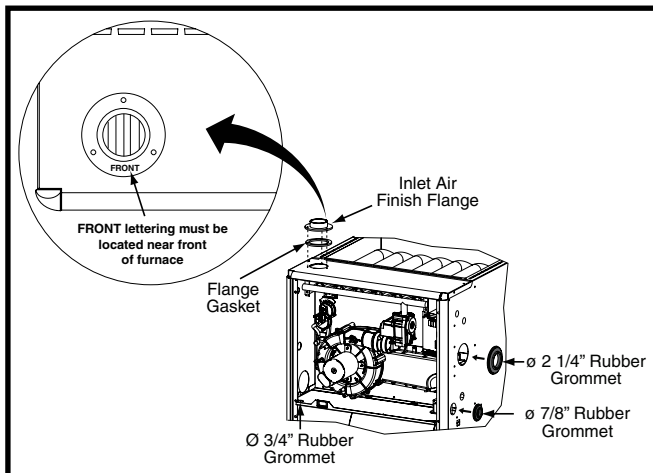
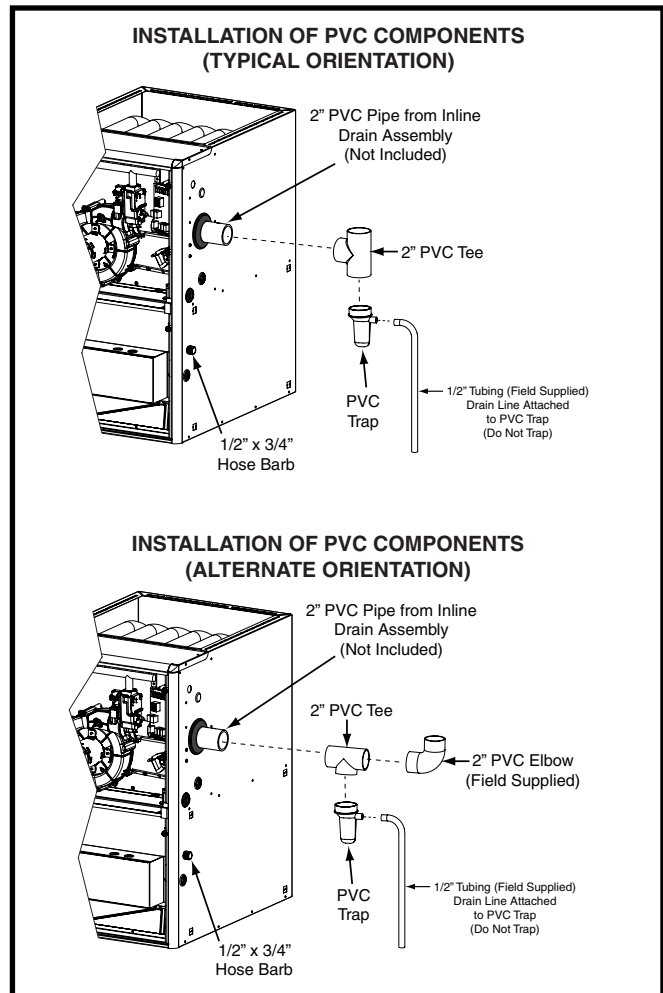

Figure 14. Finish Flange & Rubber Grommets
Figure 15. PVC Components
The components in Figure 14 & Figure 15 are included in the extra parts bag supplied with the purchase of *TC furnaces. Depending on your particular installation, some of these components are optional and may not be used. Please refer to the descriptions and accompanying figures when installing these items.
NOTE: Make sure the flange is properly oriented so that the FRONT lettering is located near the front of the furnace as shown in Figure 14.
The 2 1/4" rubber grommet is used to seal the opening between the furnace cabinet and the 2" PVC vent pipe. The rubber grommet should be installed in the 3" hole prior to running the vent pipe out of cabinet. No sealants are required. See Figure 14.
- The 2" PVC pipe shown in Figure 15 is not provided in the extra parts bag.
The 2" PVC Tee and Trap are used when the inducer is rotated to vent out thru the left or right side of the furnace cabinet. See Figure 15.
1. Install the PVC Tee vertically on the 2" vent pipe that is extending out the side of the cabinet. Permanently bond them together using appropriate primer and cement. Refer to the typical orientation shown in Figure 15.
1. Install the 2" PVC Tee horizontally on the 2" vent pipe that is extending out the side of the cabinet. Permanently bond them together using appropriate primer and cement. Refer to the alternate orientation shown in Figure 15.